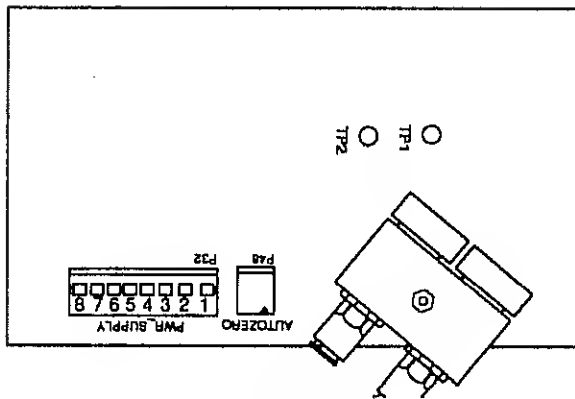

Figure 7-2
3. Referring to figure 7-2 and table 7-1, verify the outputs of the power supply. If not within specification, the Power Supply PCB may require replacement.